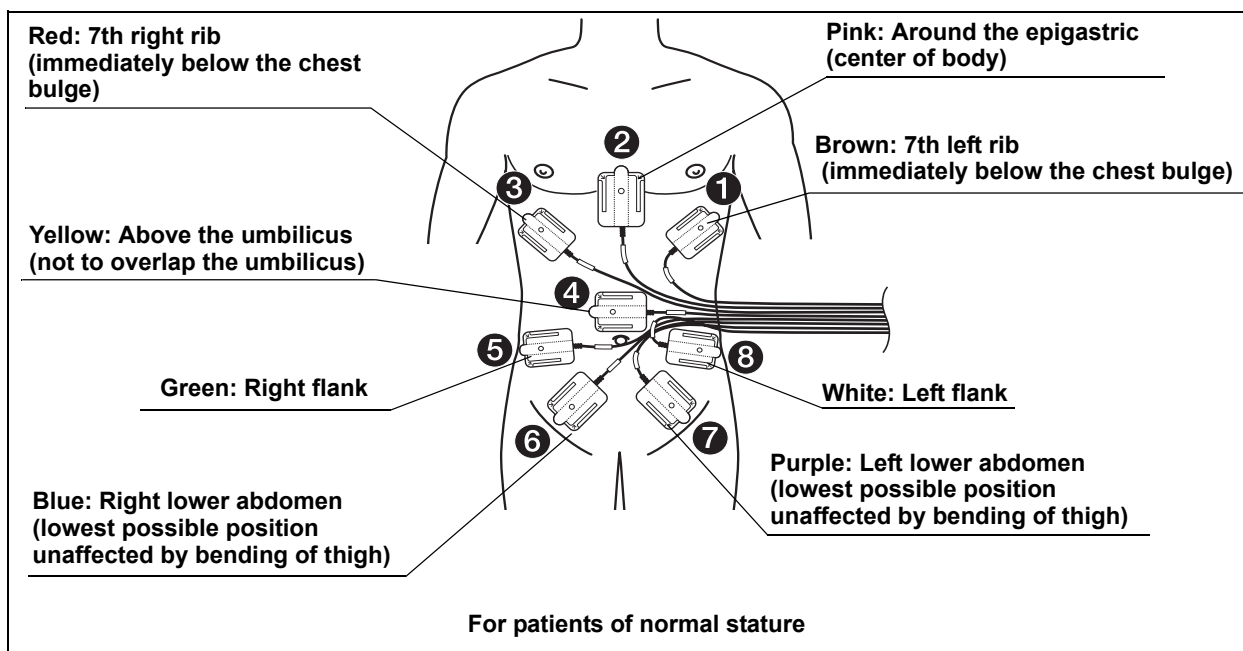
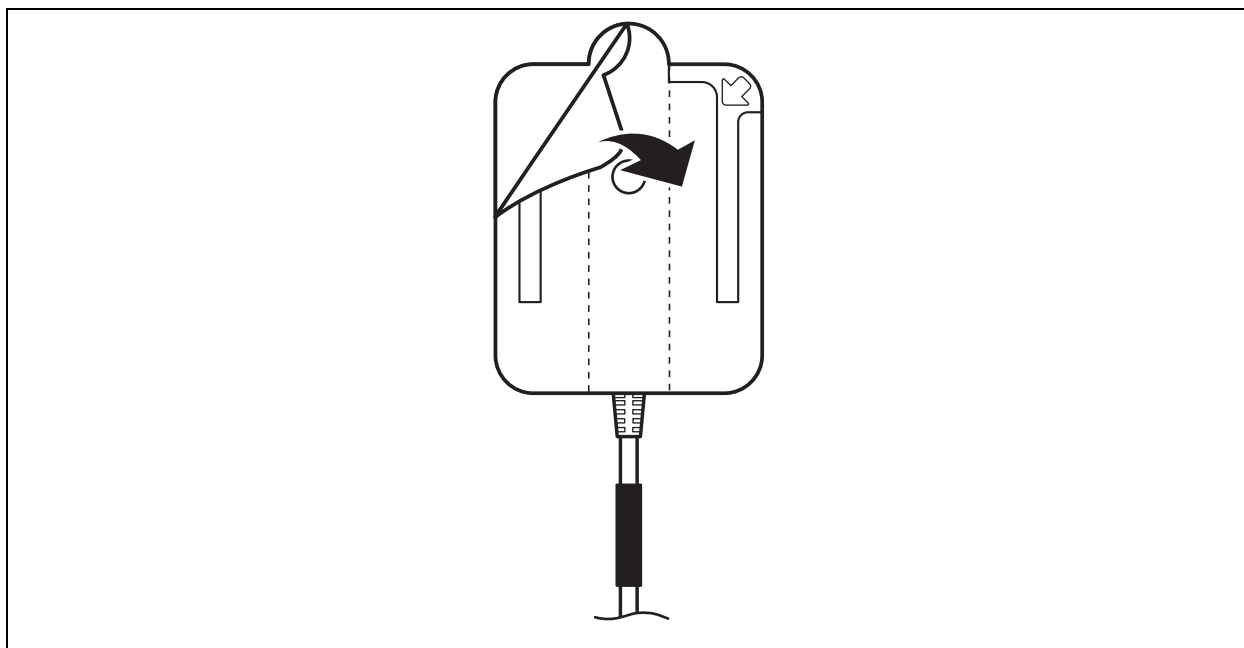

Figure 5.26
Figure 5.30
2. Place the antenna pads on the patient so that their numbering matches the Antenna Locations Guide (see Figure 5.26). Starting with antenna pad ②, remove the lining paper on the back of the antenna lead cover by peeling from the point indicated by the arrow (see Figure 5.30), and then press down firmly on the antenna pad to attach it to the patient.